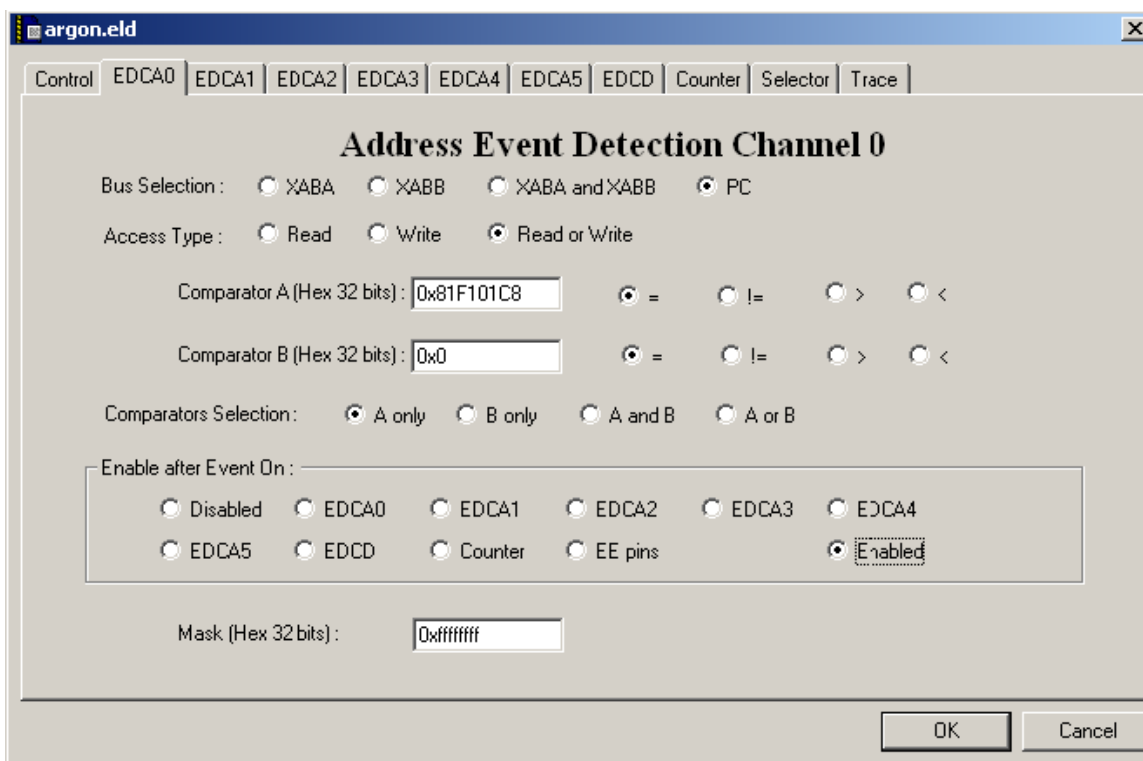

Figure 13: Trigger Setup for Start of Trace Collection
- iii. In the EOnCE configuration window select the EDCA0 tab (see Figure 13: Trigger Setup for Start of Trace Collection)